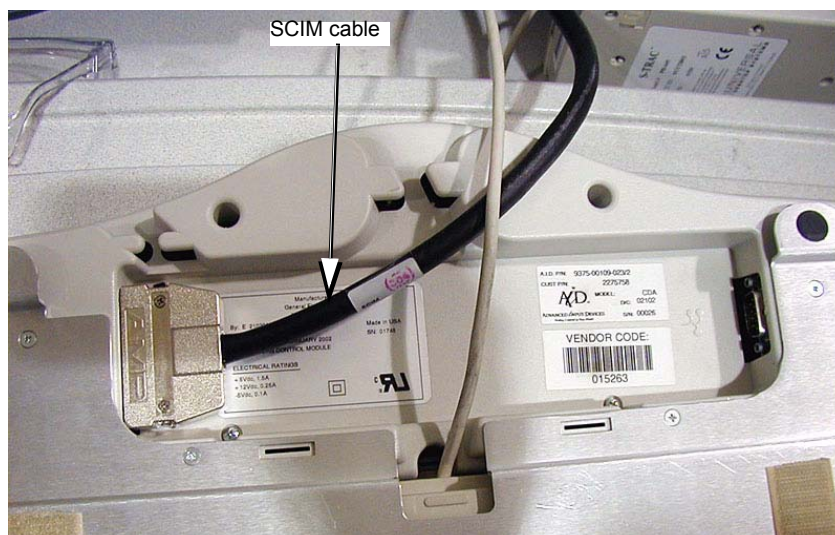

Figure 2-10 SCIM bottom, showing cables and keyboard mounting bracket
- 6.) Connect the SCIM cable to the SCIM as shown in Figure 2-10. (Note the cable routing.)